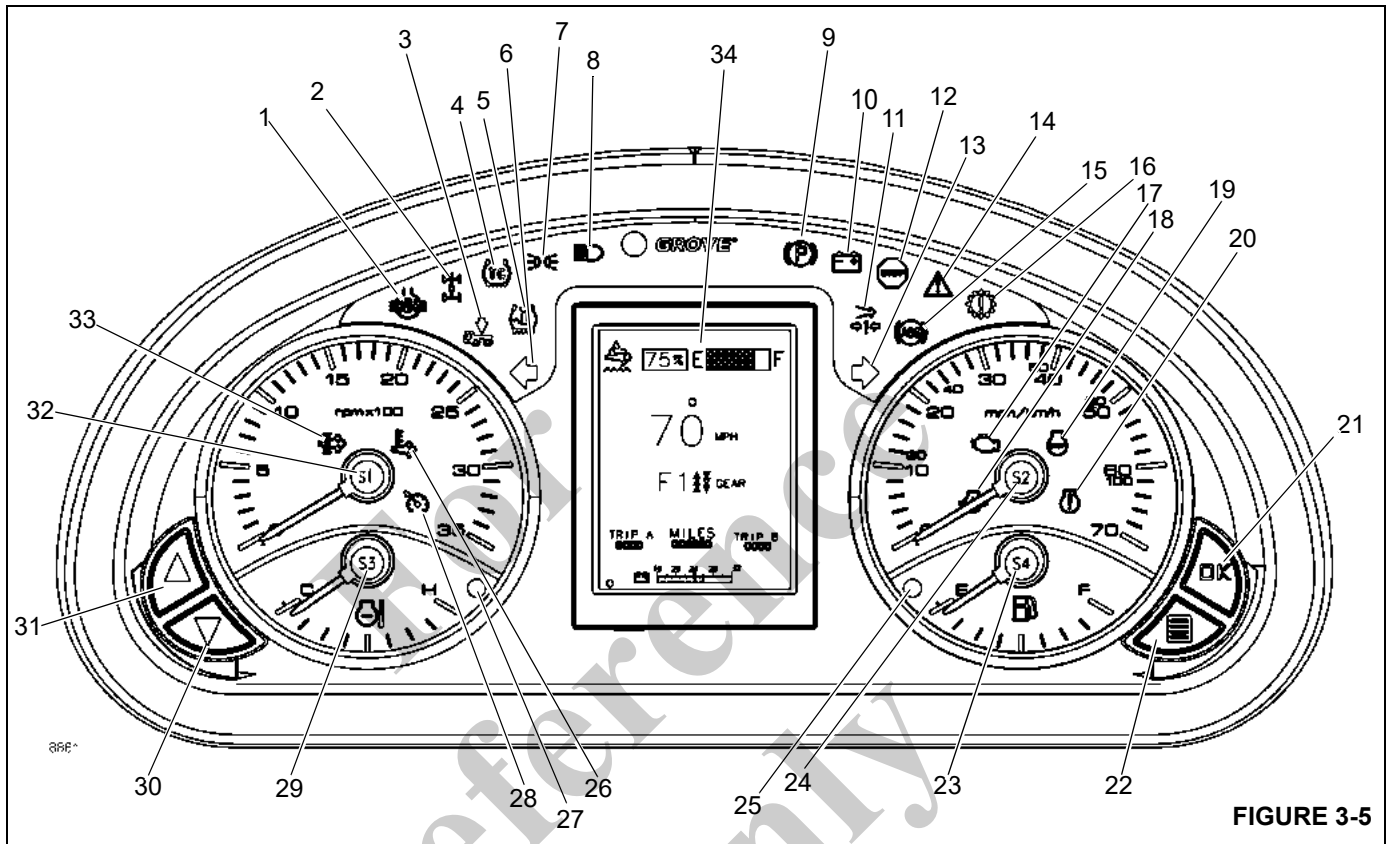

FIGURE 3-5
(Figure 3-5) Item Numbers
The Cross-Axle Locked indicator (1), (Figure 3-5) is located at the left side of the gauge cluster. The indicator illuminates amber to show that the differential is locked.
The inter-axle locked indicator (2), (Figure 3-5) is located at the left side of the gauge cluster. The indicator illuminates amber to show that the inter-axle is locked.
The suspension deflated indicator (3), (Figure 3-5) is located on the left side of the gauge cluster. The amber indicator illuminates when the air is removed from the suspension air bags. It is controlled by four pressure switches connected in series.
This lamp (4), (Figure 3-5) is the primary indicator of the traction control status.
The tire inflation ON indicator (5), (Figure 3-5) is located on the left side of the gauge cluster. The indicator illuminates amber when the pressure switch in the tire inflation system is activated. In addition to illuminating the indicator, a warning buzzer will sound.
The left turn signal indicator (6), (Figure 3-5) is located on the left side of the gauge cluster. It is a green indicator light that flashes when the turn signal lever or hazard switch is activated.
The lights ON indicator (7), (Figure 3-5) is located on the left side of the gauge cluster. It illuminates green when the headlights or marker lights are on.
The headlight high beam indicator (8), (Figure 3-5) is located at the top left center of the gauge cluster. The indicator is a blue light that illuminates when the headlights are on high beam.
The parking brake engaged indicator (9), (Figure 3-5) is located at the top right of the gauge cluster. The indicator illuminates red when the crane parking brakes are applied. It is controlled by a pressure switch on the parking brake valve.
This indicator (10), (Figure 3-5) will illuminate red when any of the following conditions are met, key switch is OFF but the headlights or turn signals are left on, the key switch is turned to the IGNITION position, the engine is running and the alternator charge signal is missing, or the system battery voltage or engine ECM voltage falls below 18V or goes above 30V. If both the carrier and superstructure key switches are OFF this light will not be on.
The Low Air Pressure Indicator (11), (Figure 3-5) is located on the right side of the gauge cluster. It illuminates red when the pressure in the dual accumulator charge valve falls below normal operating requirements. A warning buzzer will also sound.
The Emergency Stop Indicator (12), (Figure 3-5) is located on the right side of the gauge cluster. It illuminates red when the Emergency Stop Switch is pushed in (refer to Emergency Stop Switch, page 3-15) and a warning buzzer will sound.
The right turn signal indicator (13), (Figure 3-5) is located on the right side of the gauge cluster. It is a green indicator light that flashes when the turn signal lever or hazard switch is activated.
The system fault indicator (14), (Figure 3-5) is located on the right side of the gauge cluster. It illuminates amber when any crane system fault is active.
This lamp (15), (Figure 3-5) is the primary indicator of the ABS status.
The check transmission indicator (16), (Figure 3-5) is located on the right side of the gauge cluster. It illuminates red when commanded by the TCU (transmission control unit) via J1939 serial communications. A warning buzzer will also sound.
The Malfunction Indicator Lamp (MIL) (17), (Figure 3-5) illuminates amber when there is an emission related system error. When this indicator illuminates have the crane serviced as soon as possible.
The low oil pressure indicator (18), (Figure 3-5) is located in the speedometer. It illuminates red as commanded by the engine ECM via J1939 serial communications.
The engine stop indicator (19), (Figure 3-5) is located in the speedometer. The indicator illuminates red when energized by a signal from the engine ECM that signifies a serious engine problem that requires the vehicle and the engine to be stopped as soon as safely possible. In addition, a warning buzzer will also sound.
The engine warning indicator (20), (Figure 3-5) is located in the speedometer. It illuminates amber when energized by a signal from the engine ECM that signals the operator of an engine problem which must be corrected.
The OK button (21), (Figure 3-5) is used to accept the current display screen on the LCD display.
The menu button (22), (Figure 3-5) is used to scroll through the LCD display screens.
The Fuel Gauge (23), (Figure 3-5) is located on the right side of the gauge cluster. The gauge indicates the quantity of fuel in the fuel tank and has a scale calibrated from E (Empty 0%) to F (Full 100%). The fuel gauge receives a signal from the engine ECM via J1939 serial communications.